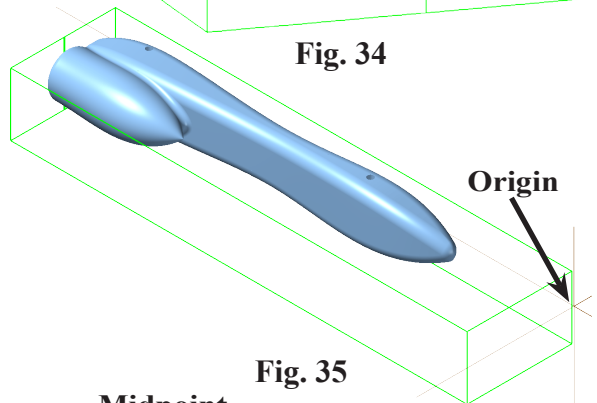

Fig. 35
Step 3. Display the origin. Use **F9** to show the axes, **Fig. 35.**